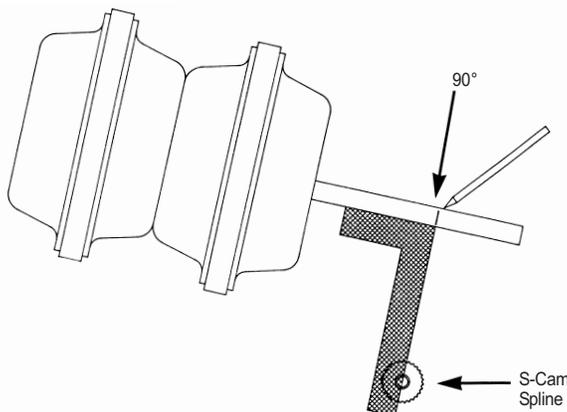

Figure 10 – Marking the Push Rod
3. Using a square, mark the universal push rod at the 90 degree position when the square edge is centered in the end of the S-Cam. (see Figure 10) Make sure the push rod is centered in the chamber and not cocked before marking the push rod.